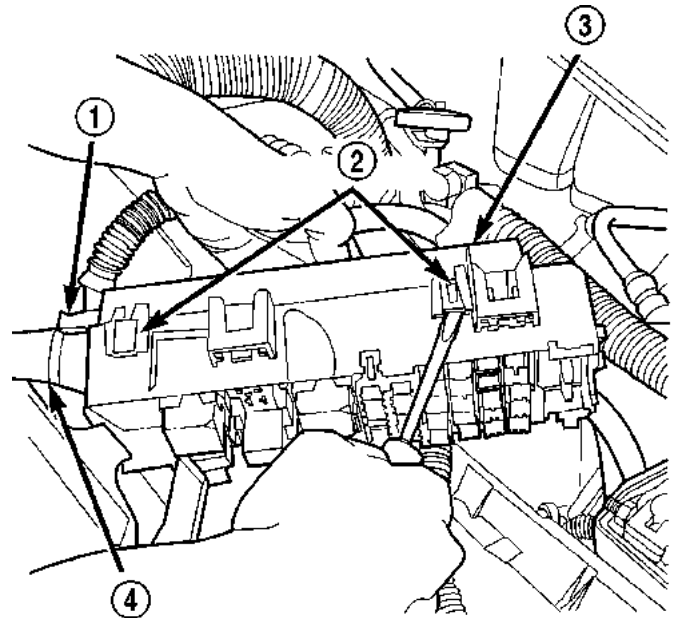

Fig. 9 PDC Housing Lower Cover Remove/Install - Typical
(1) Disconnect and isolate the battery negative cable.
(2) Unlatch and remove the cover from the PDC.
(3) Unlatch and remove the B(+) terminal stud cover from the PDC.
(4) Remove the two nuts that secure the eyelet terminal to the two B(+) terminal studs of the PDC.
(5) Remove the eyelet terminal from the PDC B(+) terminal studs.
(6) Disengage the latches on the PDC mounts from the tabs on the PDC bracket stanchions, and pull the PDC housing upward to disengage the mounts from the stanchions of the bracket.
(7) Using a trim stick or another suitable wide flat-bladed tool, gently pry the latches on each side and one end of the PDC housing that secure the housing lower cover to the PDC and remove the housing lower cover (Fig. 9).